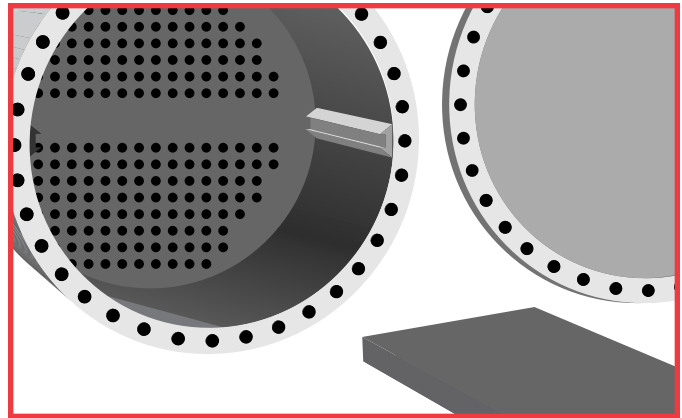

Figure 37. Coat inlet areas, baffle plate inserts and end covers for complete protection of equipment.
5. Coat the inlet areas, baffle plate inserts, and the end covers. Be sure not to apply any epoxy material to the baffle plate holder tracks, otherwise, it may be difficult to reassemble the plates after all the coatings have been applied, as illustrated in the next column. (See figure 37)